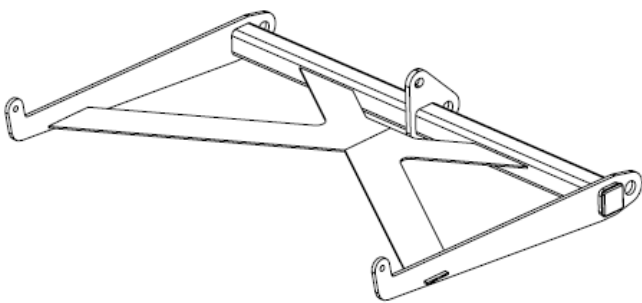

Fig 5. Pullback bar positioned with connection tabs facing up
2. Position the pull back bracket with the connection tabs facing up (toward the array). See Fig. 5.